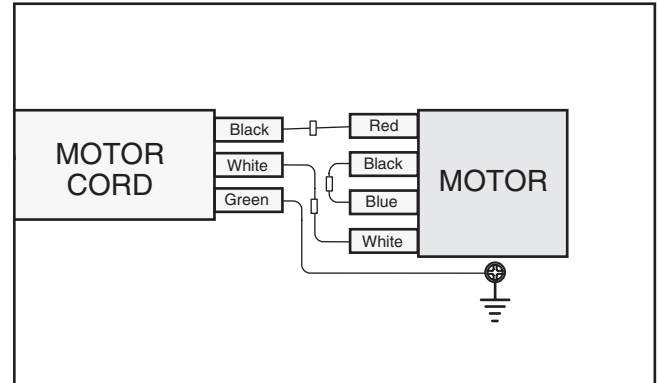

Figure 15. 220V motor wiring.
- Make the motor connections in accordance with **Figure 15**.